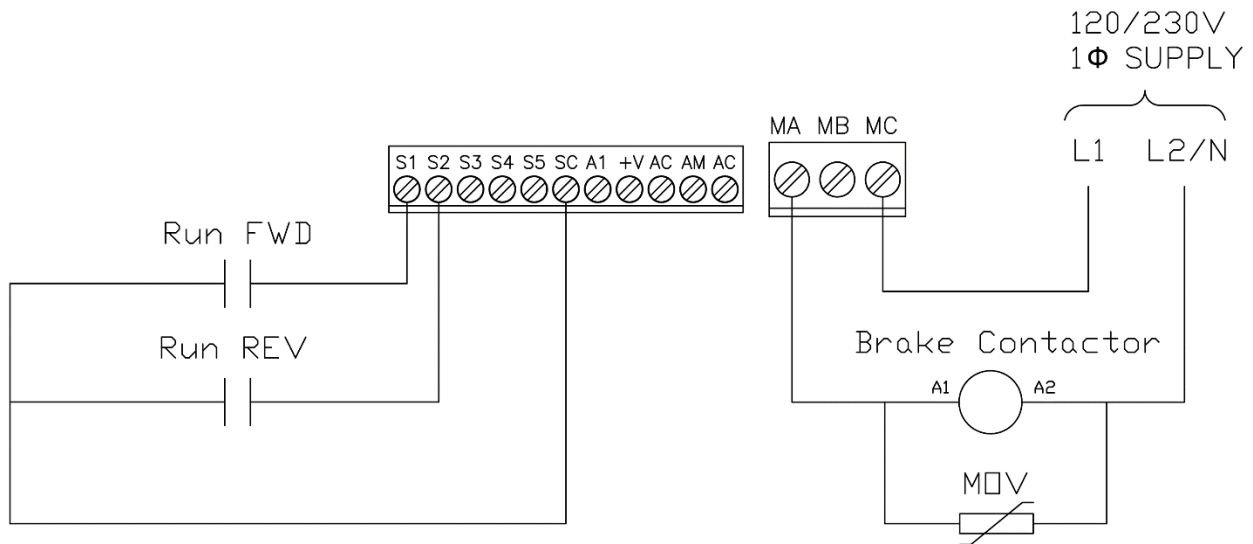

Figure 5: Wiring Diagram – IMPULSE•T Control Connections using the Drive's Internal 24VDC Power Supply
- b. A set of contacts (relay, pendant, etc.) can be connected to the SC (Signal Common), S1 (Forward Input), and S2 (Reverse Input) terminals as shown in Figure 5 if an external power supply is not available.